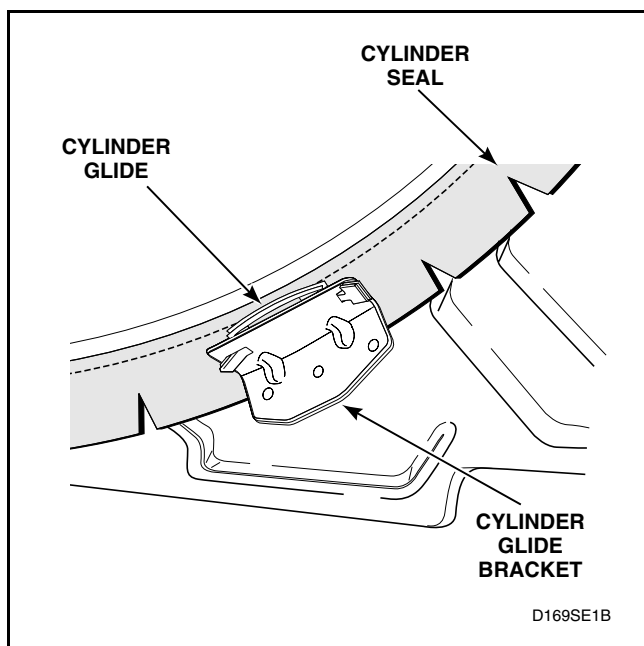

Figure 52
**NOTE:** When reassembling the front bulkhead to the cabinet, hold glides in position with finger tips on the edges of glides. Once bulkhead is in place, inspect the glide position with a mirror to insure the glides are aligned with the cylinder, making sure the tabs are visible. Refer to *Figure 52*.
- Cylinder glides and pads** (Refer to *Figure 52*)
- Front cylinder seal** (Refer to *Figure 52*)
**NOTE:** When reassembling the front bulkhead to the cabinet, hold glides in position with finger tips on the edges of glides. Once bulkhead is in place, inspect the glide position with a mirror to ensure the glides are aligned with the cylinder, making sure the tabs are visible. Refer to *Figure 52*.
**NOTE: When reassembling the front bulkhead to the cabinet, hold glides in position with finger tips on the edges of glides. Once bulkhead is in place, inspect the glide position with a mirror to ensure the glides are aligned with the cylinder, making sure the tabs are visible. Refer to *Figure 52*.**